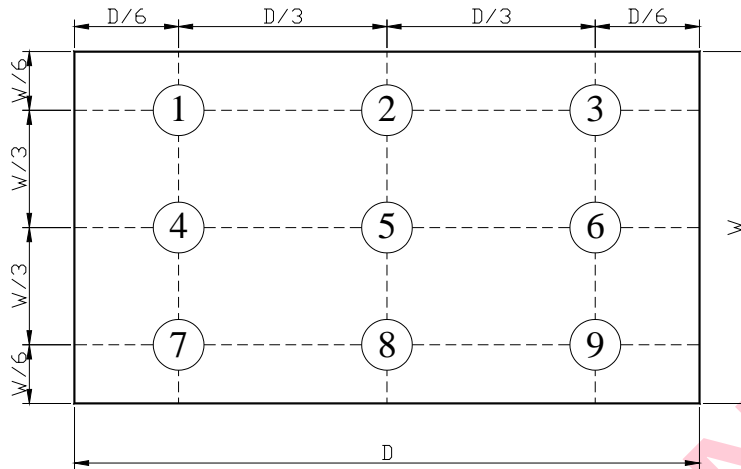

Figure 9. Uniformity Measurement Locations (9 points)
4. The White luminance uniformity on LCD surface is then expressed as : $\Delta Y = \text{Minimum Luminance of 5(or 9) points} / \text{Maximum Luminance of 5(or 9) points}$.(see Figure 8 and Figure 9).
The White luminance uniformity on LCD surface is then expressed as : ΔY_5 = Minimum Luminance of five points / Maximum Luminance of five points (see Figure 8) , ΔY_9 = Minimum Luminance of 9 points /Maximum Luminance of 9 points (see Figure 9).